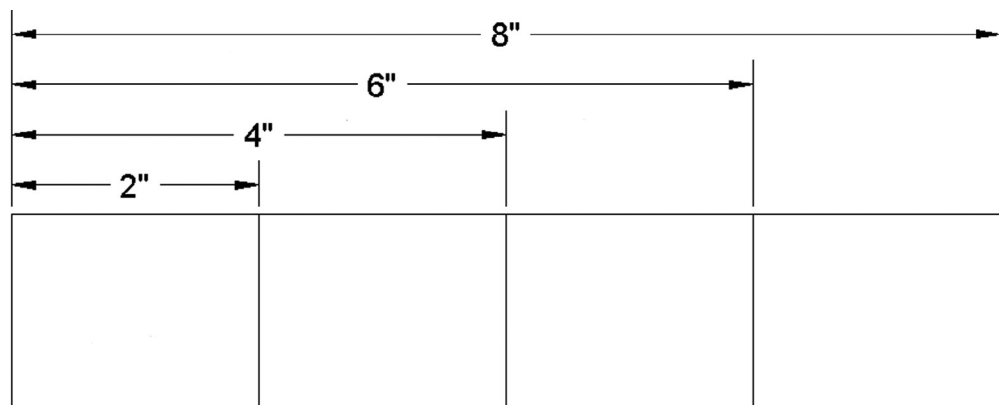

FIGURE 6.12
Step 3. You can continue this until you run out of objects to dimension; at that point, just press Esc. Your result is shown in Figure 6.12.